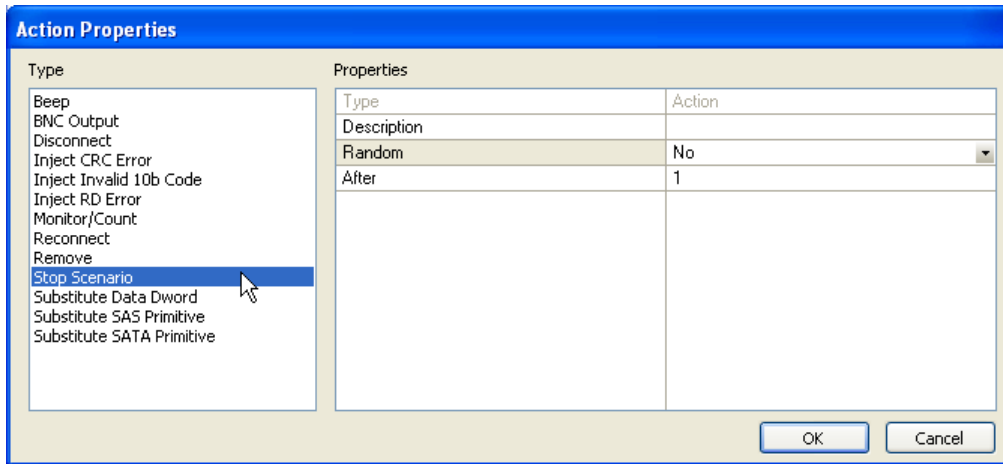

Figure 5.34 Example 6: Action Drop-Down List
- Step 7** The Action Properties dialog box appears (Figure 5.34). In the Type list on the left, choose **Stop Scenario** as the action you want after the timer has expired.